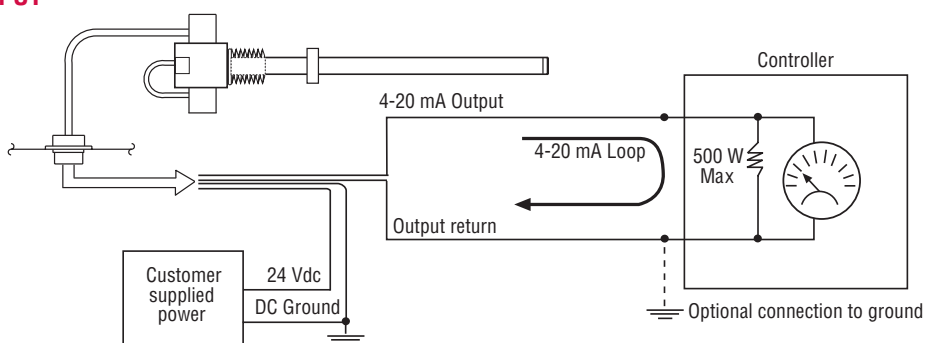

Figure 9. Typical wiring for current output
3. The sensor's output return connection is referenced to DC Ground, (connected internally). To avoid output errors, the optional connection to ground at the controller must be at the same potential as DC Ground (see Figure 9).
G-Series Model GE position sensors are designed for installation into hydraulic cylinders. The sensor's high-pressure, stainless-steel tube installs into a 10 millimeter (0.39 in.) bore in the piston head and rod assembly as illustrated (see Figure 9). Installation of the Model GE sensor requires modification of the cylinder end cap as indicated. Proper sealing of the end cap surrounding the electronics module is required to achieve the desired ingress protection.